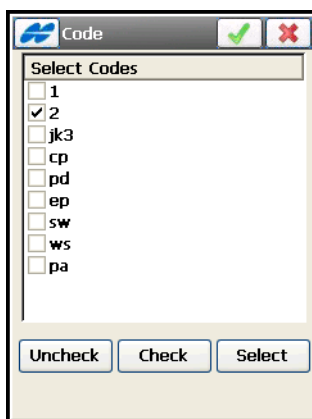

Figure 5-7. Code
- **Select** – opens the *Code* screen (see Figure 5-7 on page 5-7) for code selection.
The *Code* screen contains a list of available codes. All points with codes selected here are imported (Figure 5-7 on page 5-7).